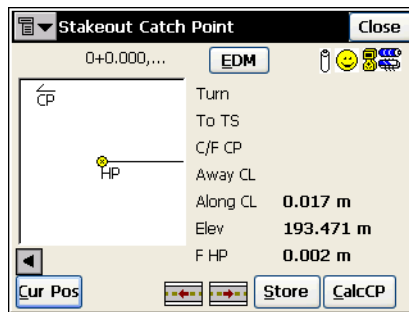

Figure 7-41. Stakeout Slope – Stakeout Catch Point
6. For TS: sight the prism. In the *Stakeout Catch Point* screen, tap the **Cur Pos** button to measure the target. Tap the **EDM** button to select distance measurement mode: Coarse, Fine or Coarse Tracking. Once the position is close enough to the desired point, tap **Meas** to store it. Tap the  /  button to retreat / advance the station by the specified Station Interval, for staking out at the previous / next station, respectively (Figure 7-41).